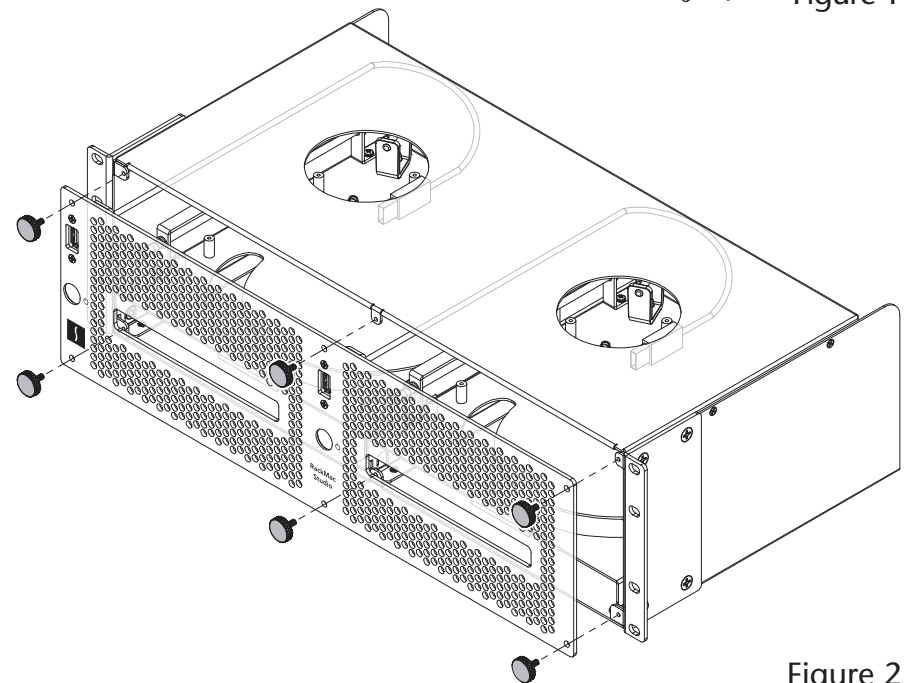

Figure 2
3. Turning them counter-clockwise, remove and set aside the six thumbscrews securing the front panel to the rackmount enclosure, and then remove and set aside the front panel (**Figure 2**).